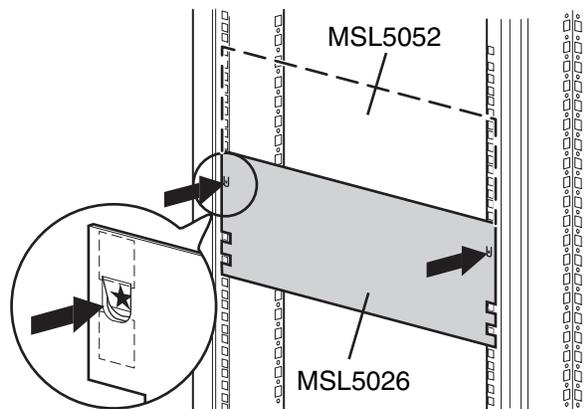

Figure 2–2: Library template
2. Remove the template and then attach the rails using the supplied fasteners (see Figure 2–3). The front rail brackets are threaded to directly accept screws. The rear brackets are not threaded and require cage nuts in the storage cabinet’s rear vertical rails.